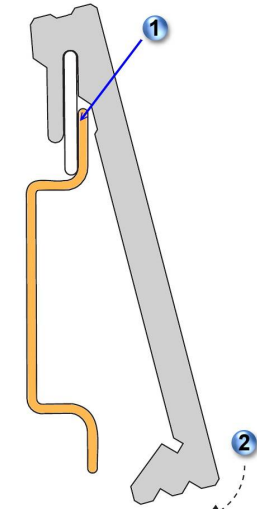

Figure 2.4.4
3. Insert the top of the DIN-Rail into the top slots on the DIN-Rail mounting plate and the DIN-Rail mounting plate will snap into place. (Figure 2.4.4)